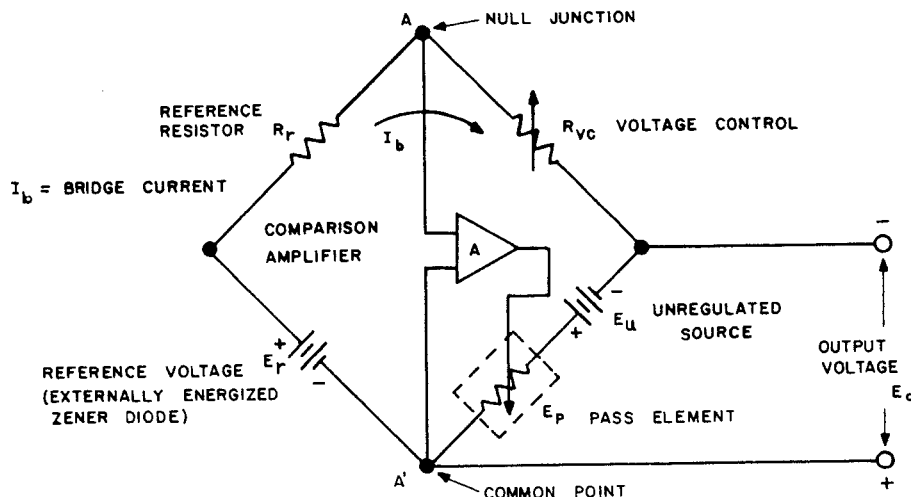

FIG. 3-4 KEPKO POWER SUPPLY AND COMPARISON BRIDGE CIRCUIT.
- 3-8 GENERAL. A few general remarks may be in order to familiarize the user of this equipment with the terminology and basic equations pertaining to remote programming of the Kepco PAT Power Supplies. Electrically, the power supply consists of the unregulated d-c source (E_U), the pass element (E_P), the d-c error amplifier (A), and a comparison circuit which resembles a 4-arm electrical bridge. (Refer to FIG. 3-4.) The elements of the bridge are arranged to produce a virtual zero at the amplifier input when the bridge circuit is at balance ($V_{AA'} = 0$). Any tendency for the output voltage to change in relation to the reference voltage (E_r) creates an error signal which, by means of negative feedback and the amplifier, tends to correct the output voltage towards restoration of bridge balance.